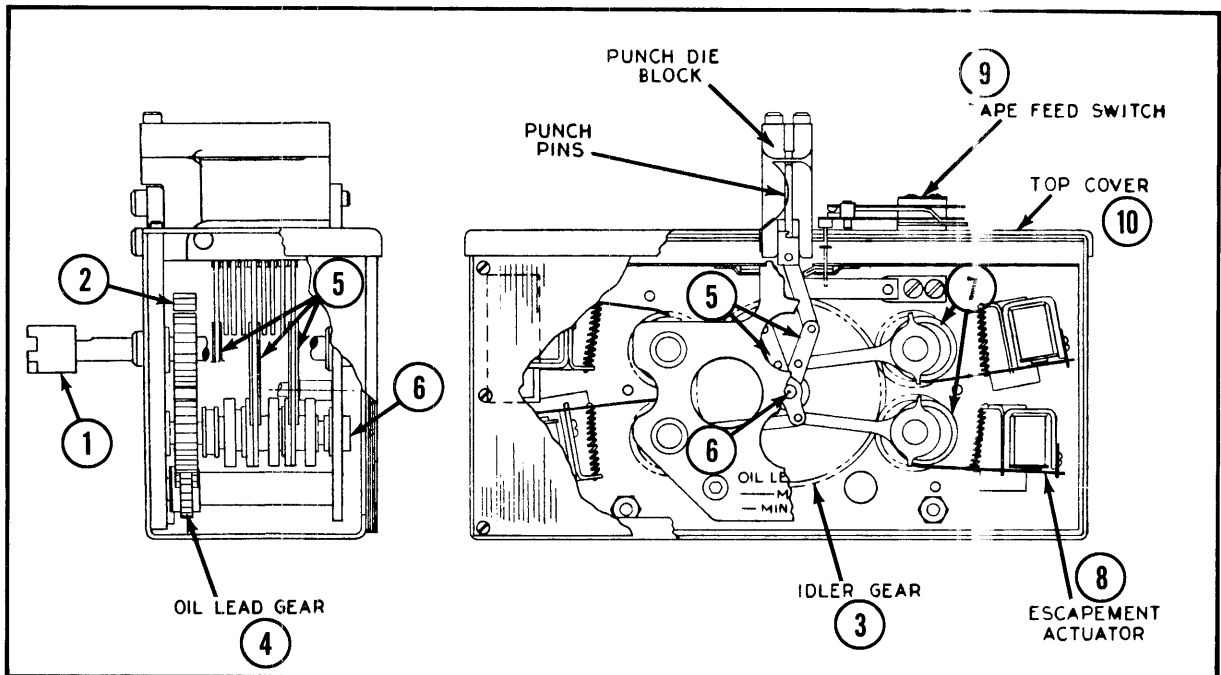

Figure 6
The perforator mechanism, mounted on the front of the panel, consists essentially of ten linkage assemblies, four clutch shafts, four clutch shaft gear assemblies, a toggle shaft, an idler gear, an oil lead gear, ten escapement assemblies, inner and outer bearing plates and a breaker switch; all except the switch are enclosed in an oil tight case (see Figure 6). The front cover of the case is made of transparent plastic, to provide visual inspection of the mechanism and oil level checking.
A lug belt from the drive motor engages a drive pulley (1, Figure 6) on the end of the upper-left clutch shaft. The clutch shaft gear (2) drives an idler gear (3), which in turn drives the remaining three clutch shaft gears. An oil lead gear (4) meshed with the idler gear, is partially immersed in the lubricating oil and during operation, it splashes oil throughout the mechanism. The ten linkage assemblies (5) are pivoted on the toggle shaft (6) and are connected to eccentric clutch units (7) on the clutch shafts. The upper end of each linkage engages a corresponding punch pin in the perforator assembly, except the switch linkage, which operates the tape feed switch. Each clutch unit is secured against rotation by the armature of an escapement mechanism mounted on one of the four escapement brackets (8).
The tape feed switch (9, Figure 6), mounted on the top cover (10), is actuated by the switch linkage, as